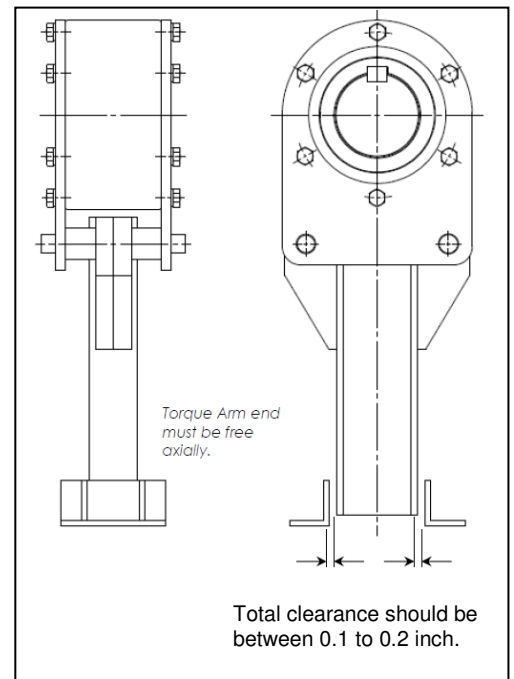

Fig 3
7. The end of torque arm will move to some extent while the conveyor is operating. Support the torque arm end only in the direction of rotation, be sure to allow it a certain amount of free movement axially. See Fig 3. The Backstop sustains damage if the torque arm end tip is fixed securely.